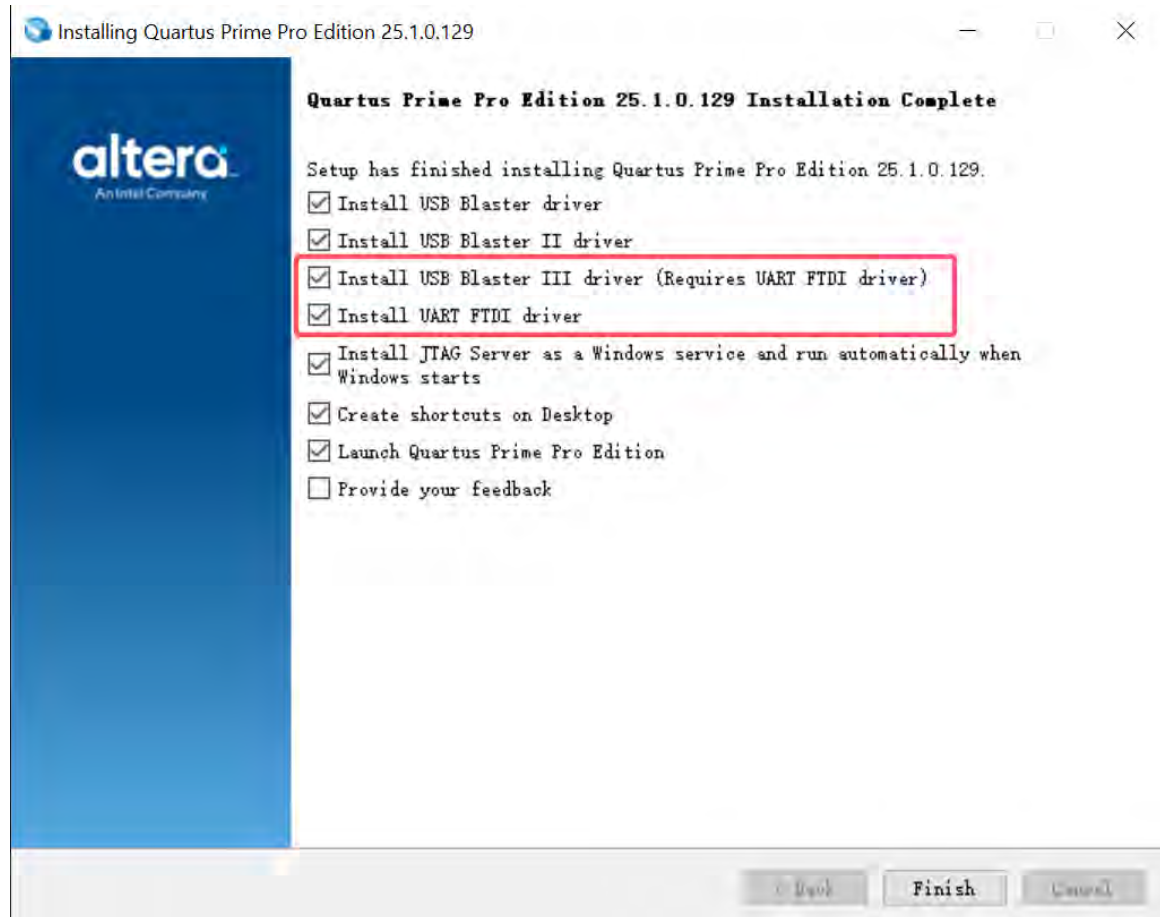

Figure 2-5 Install USB Blaster III driver
- After the file is downloaded on the computer, run the QuartusProSetup-25.1.0.129-windows.exe file to install the software including the Ashling RiscFree IDE for Altera and Agilex 3 device. All the defaults are to be used. The USB Blaster III driver will be installed at the end of software installation, as shown in below **Figure 2-5**.